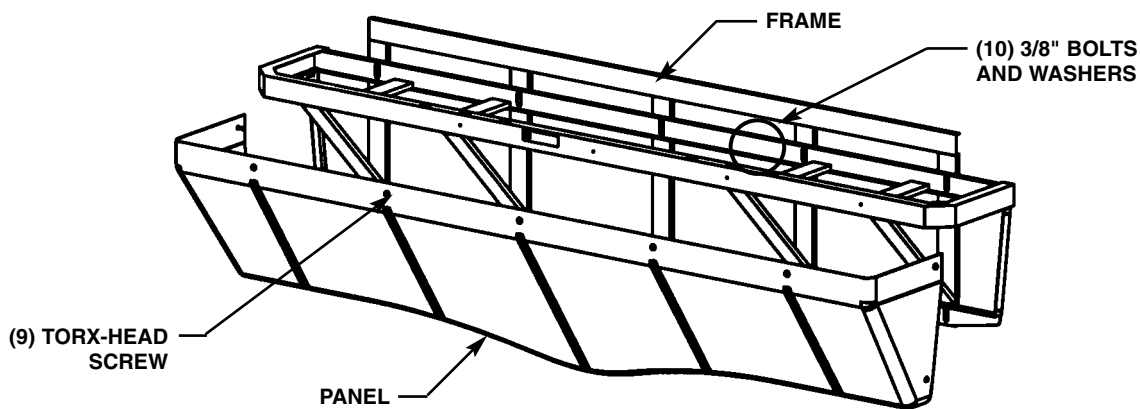

Figure 3
1. Remove the nine Torx-head screws securing the panel to the frame and remove the panel (see Figure 3).
4. Once you have positioned the frame such that it is level and flat against the wall or shimmed, use the 3/8" bolts and washers to mount the frame to the wall (see Figure 3 below and Figure 4 on page 6).
4. After testing is complete, reinstall panel to frame. Fasten panel with eight Torx-head screws provided (see Figure 3 on page 5).